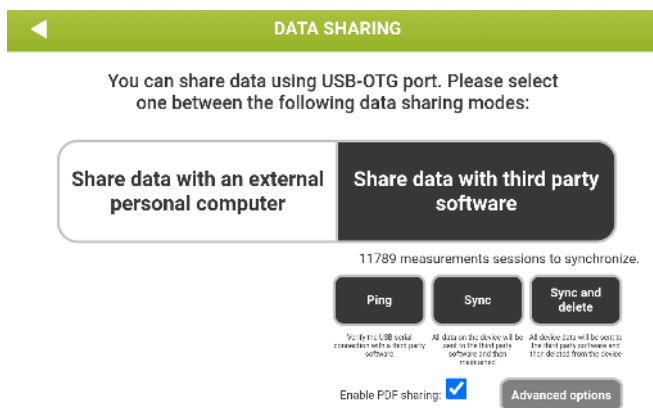

Figure 21 - Options available for sharing data with 3rd party software
1. Select *Sharing Data with third party software* (Figure 21)
2. Three more buttons are now displayed: *Ping*, *Sync* and *Sync and Delete* (Figure 21)